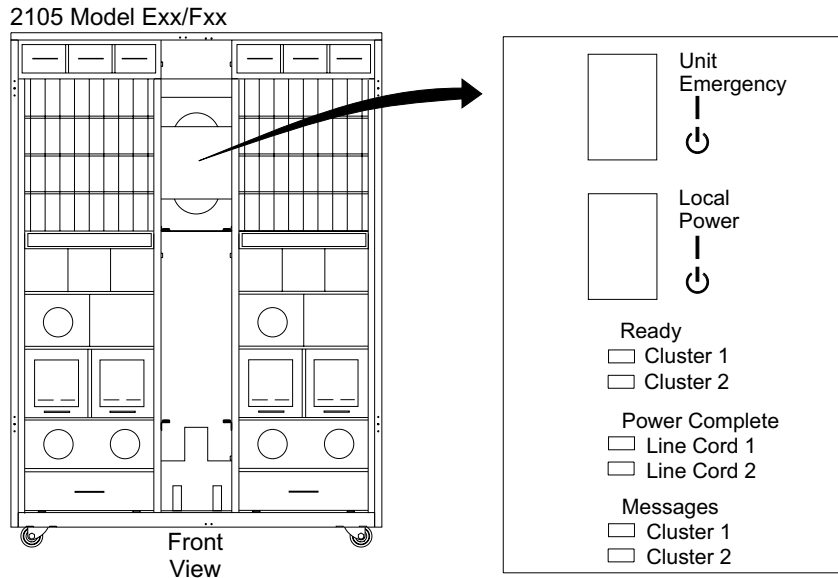

Figure 95. 2105 Model Exx/Fxx Operator Panel Locations (S008810m)
- b. Check the Power Complete, Line Cord 1 and 2 indicators in Figure 95, on the front of the 2105 Model Exx/Fxx.
- If either indicator is off or blinking, press the Local Power switch in Figure 95 on page 190, to On (up) for two seconds then release it. Go to step 6c.
- b. Check the Power Complete, Line Cord 1 and 2 indicators in Figure 95 on page 190, on the front of the 2105 Model Exx/Fxx.
- If either indicator is off or blinking, press the Local Power switch in Figure 95 on page 190, to On (up) for two seconds then release it. Go to step 7c.